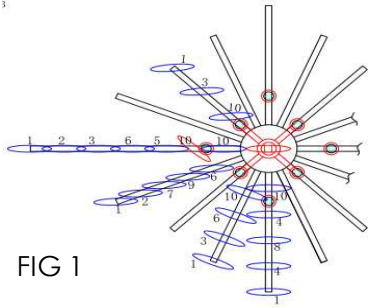
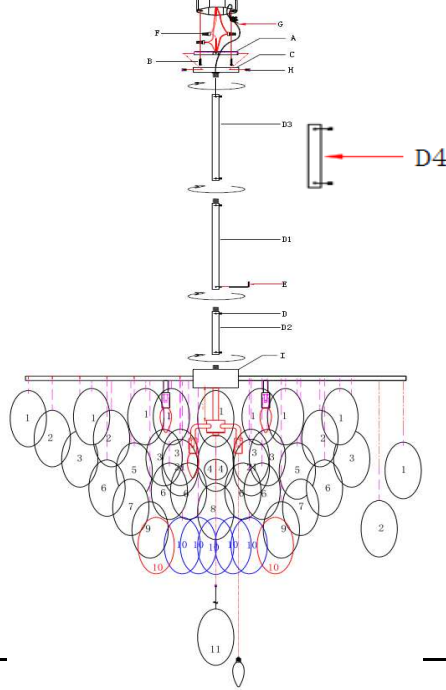

FIG 1
FIG 2
4. Connect lamp body(I) and canopy(C) with rods(D1,D2,D3,D4) when you connect the rods, loosen the small hex screws(E) first then tighten with allen wrench(E), after all rods are connected. Be sure all the hex screws are tight enough.
5. Remove mounting plate(A) from the canopy(C) by unscrewing the collar.
7. Wrap ground wire of lamp assembly and ground wire of junction box together and fasten together with a wire connector(F) and wrap the connection with electrical tape.
8. Attach the neutral fixture wire from the pendant to the neutral junction box wire (usually white). Fasten each together with a wire connector(F) and wrap the connection with electrical tape.
9. Attach the hot fixture wire from the pendant to the hot junction box wire (usually black). Fasten each together with a wire connector(F) and wrap the connection with electrical tape. **DO NOT REVERSE THE HOT AND NEUTRAL CONNECTIONS, OR SAFETY WILL BE COMPROMISED.**
10. Pass the aircraft wire(G) through the mounting plate(A), attach the aircraft wire(G) on the junction box, then secure the aircraft wire(G) with screws which are included. **This fixture is 32.5KG(71.5LBS), the aircraft wire(G) installation is requested for safety.**
11. Attach the mounting plate(A) to the ceiling outlet box by using the enclosed mounting screw(B) and tighten screws with a screwdriver.
12. Push the canopy(C) up over the mounting plate(A) until it is flush with the ceiling and fix the canopy by enclosed canopy screws(H). And tighten screws with a screwdriver. Be sure all the screws were tight enough.
14. Glassified the glasses from numbers showed on the package and remove all glasses from package carefully, and hang it over on the arm as per FIG 1 & FIG 2 showed.